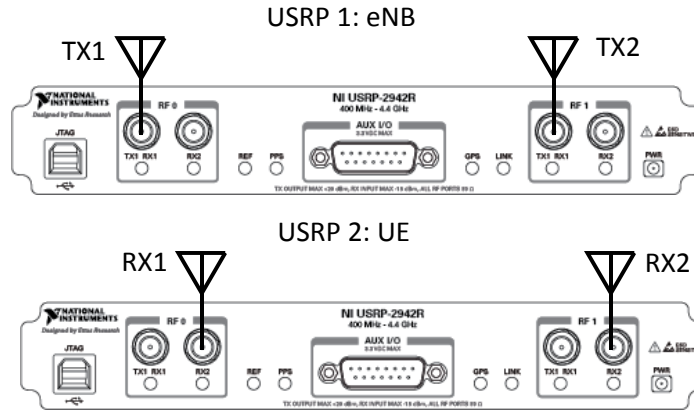

Figure 2: OTA Connection
2. Create an RF connection as shown in Figure 2.